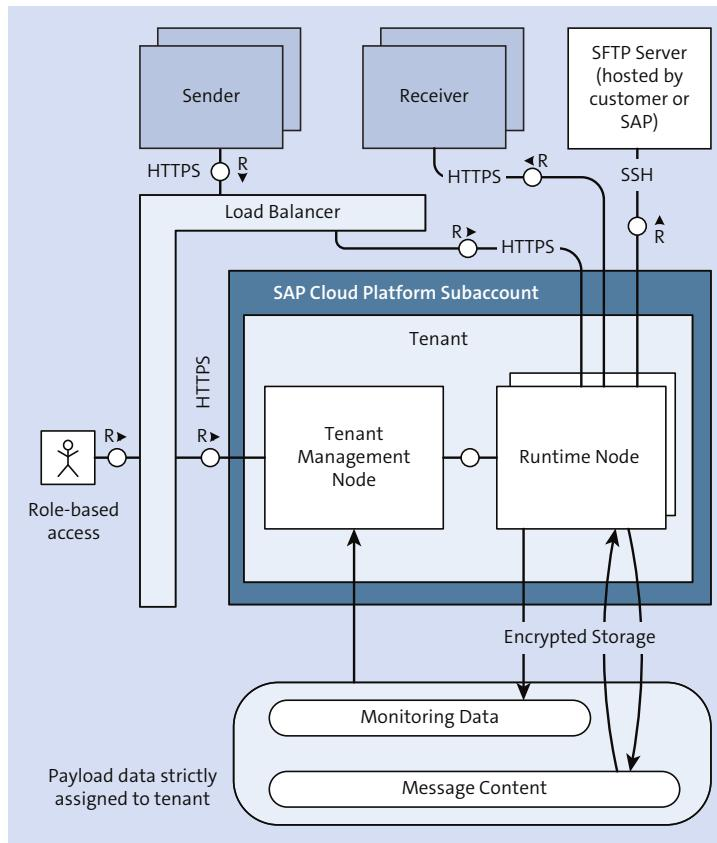

Figure 10.1 High-Level Architecture with Technical Connections, Transport-Level Security Options, and Persistence Steps
Figure 10.1 shows the high-level architecture view from Chapter 2, enriched with information on the security protocols used for the involved communication paths. In addition to this, Figure 10.1 also adds the Secure Shell File Transfer Protocol (SFTP) server for the use cases where SFTP is chosen as transport-level security (which we skipped in Chapter 2 for the sake of simplicity).
- Another set of protocols (not depicted in Figure 10.1) is also supported when exchanging e-mails using SAP Cloud Platform Integration:
As already shown in Figure 10.1, external components (sender and receiver systems as well as dialog users on the customers' side) access the SAP Cloud Platform Integration platform from the Internet. In terms of the network view, the Internet is a large and untrusted network. The components of SAP Cloud Platform Integration that process sensitive customer data can't directly be called by components from the Internet, as the load balancer is interconnected and terminates each inbound TLS request. After the load balancer has established a new TLS request, the external call is forwarded to a VM of the SAP Cloud Platform Integration cluster that actually processes